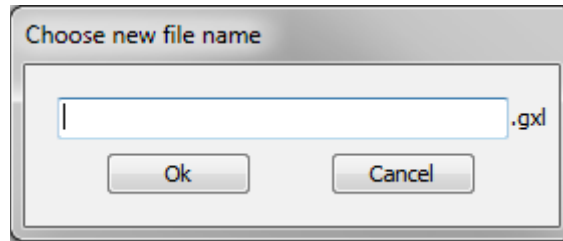

Fig 30: Naming Group Configuration File
- **New** creates new configuration file. The window (Fig 30) for naming the newly created file is opened first. Then the newly created configuration file is added in the *Available Group Configurations* list (Fig 28-1) and is prepared for adjustment in the editing mode. *New* button is not available in the editing mode.